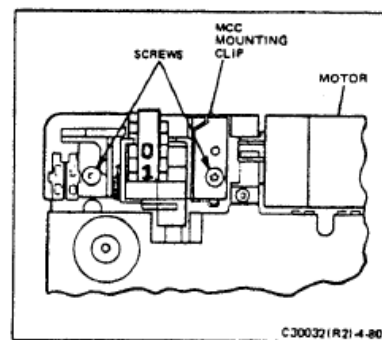

FIGURE 4-80 COUNTER BRACKET SCREWS
9. Remove the two screws which secure the counter assembly to the inner frame (see Figure 4-80).